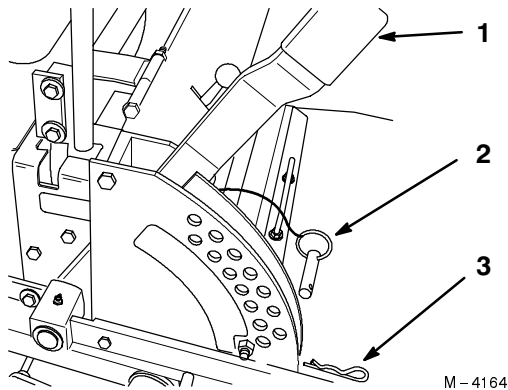

Figure 10
1. Press your foot on the lift assist pedal while raising the height-of-cut lever to the transport position (also the 5" (127 mm) cutting height position) (Fig. 10).
2. To adjust, remove hairpin cotter and clevis pin from height-of-cut bracket (Fig. 10).
3. Select hole in height-of-cut bracket corresponding to the height-of-cut desired. Lift handle to transport position, insert clevis pin (Fig. 10).
4. Secure clevis pin with hairpin cotter (Fig. 10).